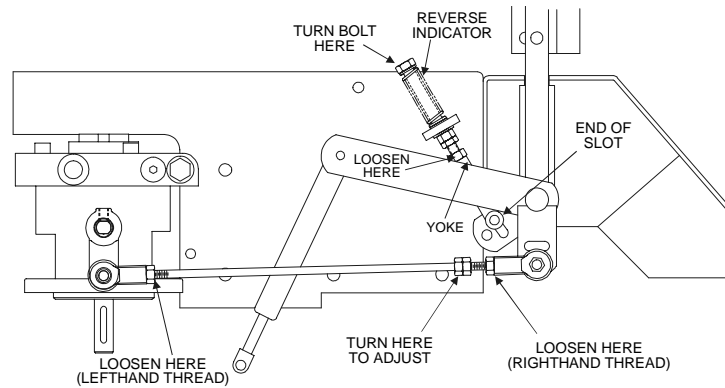

FIGURE 14
- c) Begin with either the left or right motion control lever. Move lever to the neutral position and pull lever back until the clevis pin (on arm below pivot shaft) contacts the end of the slot (just beginning to put pressure on spring), See Figure 14.
- e) Loosen lock nuts from the ball joints at each end of the RH pump control linkage (See Figure 14).
- h) Bring the RH motion control lever into the neutral position. Adjust RH pump control rod length by rotating the double nuts on the rod in the appropriate direction until the wheels slightly creep in reverse. (See Figure 14). Move the motion control lever to the reverse position and while applying slight pressure to the lever, allow the reverse indicator spring to bring the levers back to neutral. The wheel must stop turning or slightly creep in reverse. When adjustment is complete, tighten lock nuts onto ball joints.